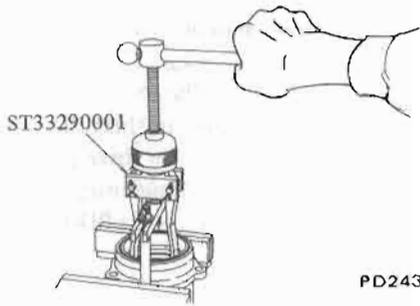

Fig. PD-7 Removing side bearing outer race
4. When replacing side bearing, extract bearing outer race from side retainer using Gear Carrier Oil Seal Puller ST33290001. See Figure PD-7.